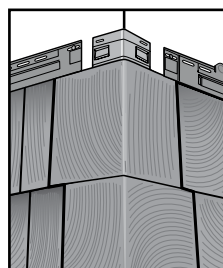

figure 11
2. Install the first Cedar Impressions panel 2-3/4" from the edge of the outside wall (figure 11).